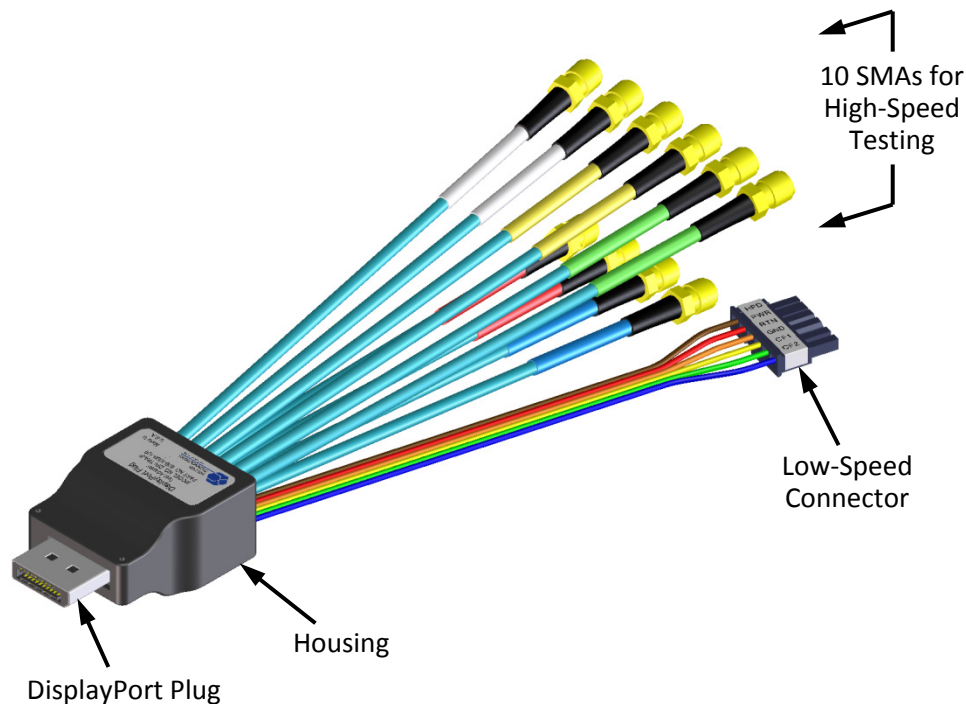

Figure 1. The DisplayPort Test Adapter (Plug)
This user's guide documents the DisplayPort Interoperability Test Adapter (DPI-TPA) and Calibration Module. The two test adapter types, shown in Figures 1 and 2, test DisplayPort Interface (DP) cables and devices against the VESA DisplayPort™ PHY Compliance Test Specification and the VESA DisplayPort™ Interoperability Guideline. The Interoperability allows access to dual mode (supporting HDMI) and tethered cable operation. See the Aux Control User Manual, 910-0015-000, for more information. The Calibration Module, shown on Page 13, is used to zero-out test adapter attributes (using SOLT, with either the 1X-THRU or the 2X-THRU).